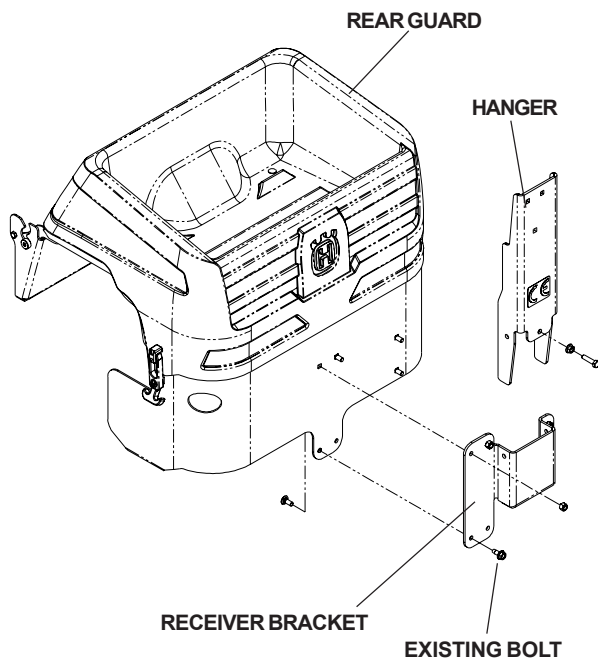

FIGURE 1
6. Tighten bolts in hanger with 1/2" wrench until hanger. See Figure 1.